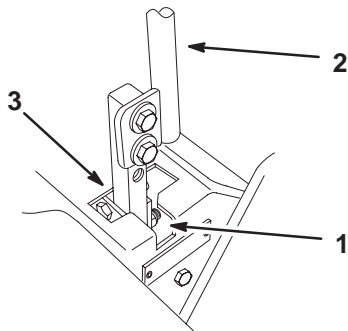

Figure 46
5. Move lever to the neutral position but **not locked** (Fig. 46).
7. Check where the control lever is relative to notch in console (Fig. 46). It should be centered allowing lever to pivot outward to the neutral lock position.
9. Apply slight rearward pressure on the motion control lever, turn the head of the adjustment bolt in the appropriate direction until the control lever is centered in neutral lock position (Fig. 46).